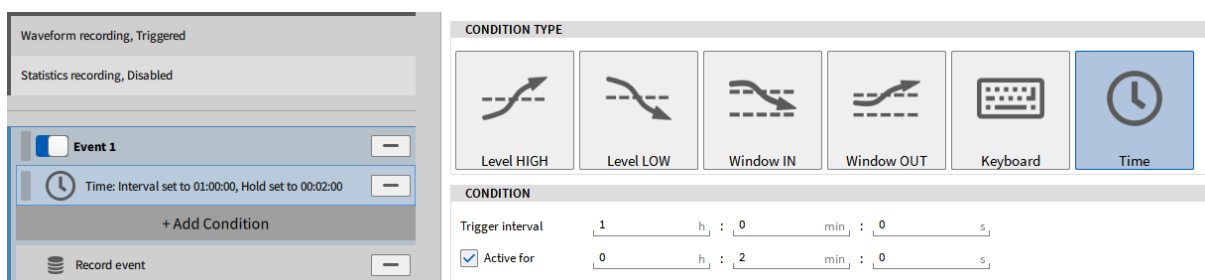

Fig. 9.35: Recording every 60 minutes for 2 minutes
- Select the *Time Condition* and enter *1h* as *Time interval* and enable *Active for 2 minutes* (see Fig. 9.35):